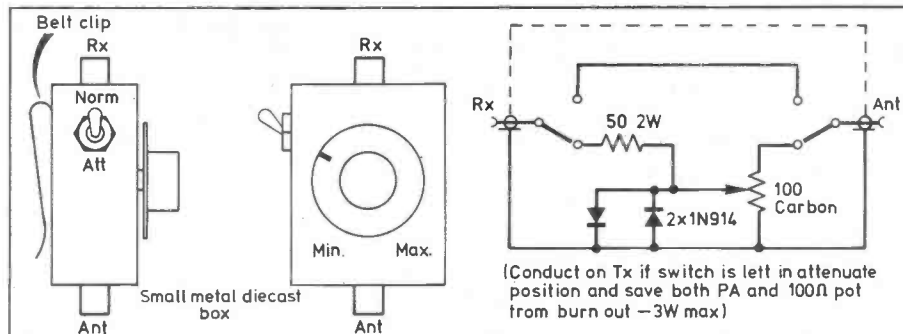

Fig. 4. As you move towards the hidden station, some kind of variable attenuator becomes a must
1. A variable attenuator (Fig. 4) for use under loud but not rock-crushing conditions and